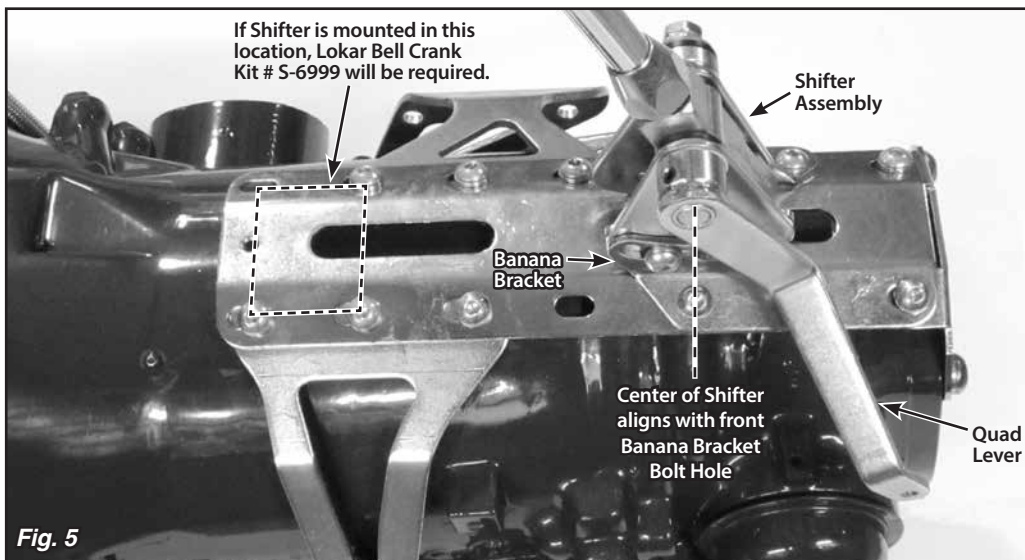

Fig. 5
Transfer that measurement to the transmission (or to the engine/transmission assembly if the engine is not installed in the vehicle). Mark that location on the Shifter's main plate. The holes in the main plate that are closest to your mark are where the **FRONT** banana bracket bolts will need to be installed. **Fig. 5**
**NOTE: If mounting the shifter assembly all the way forward on a 700-R4 or a 4L60, using the four bolt holes at the very front of the main plate, a Bell Crank Kit (Lokar Part No. S-6999\*, sold separately) will be required. Fig. 5**